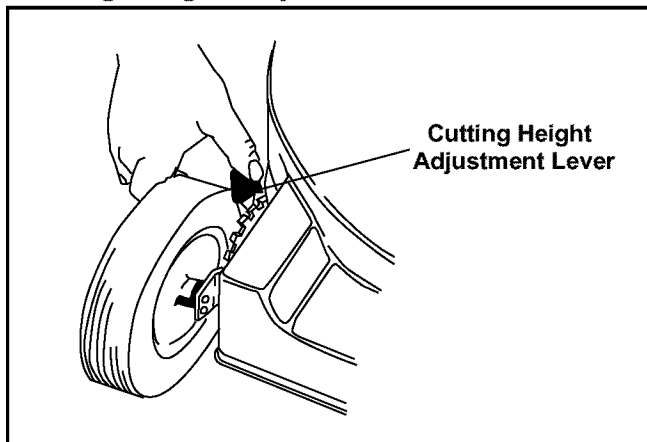

Figure 12
- To raise the height, push the lever towards the front of the mower on both front wheels, and push the lever toward the back of the mower on the rear wheels. Refer to Figure 12.